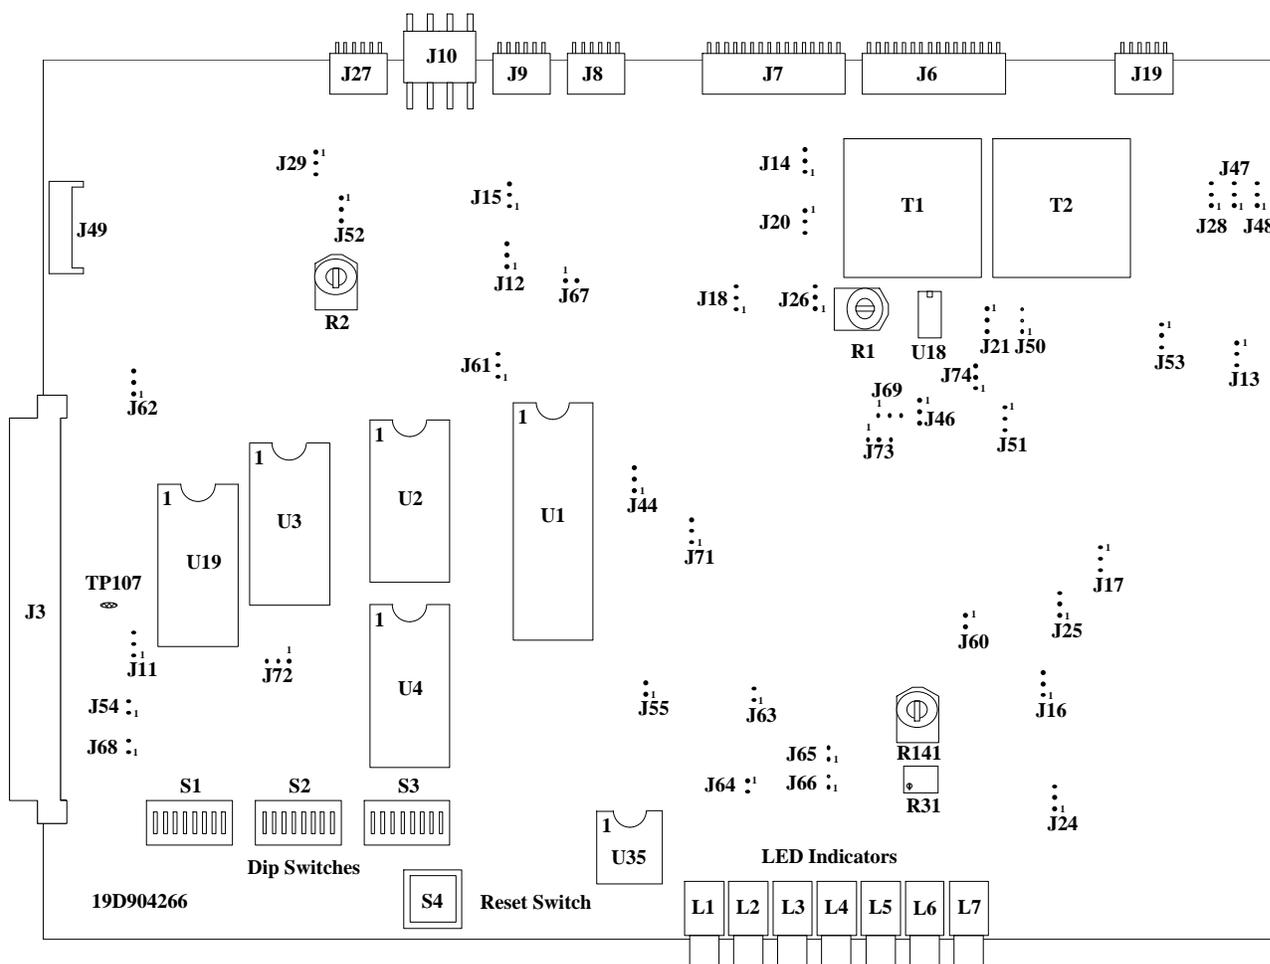

Figure 7 - Station GETC (19D904266) Jumper Locations
1. Refer to the Station GETC Configuration Manual LBI-38988 and, if possible, make a full size transparency of the station GETC Jumper Location Diagrams. If the LBI is unavailable, refer to Figure 7 and Table 7.
Three DIP switches on the GETC Logic Board must be set for proper repeater operation. These switches are located on the GETC Logic Board as shown in Figure 7. In the MASTR III repeater, S1-1 through S1-7 and S2-1 thru S2-4 are not used. S3-1 through S3-5 select the channel number. The remaining switch positions depend on the function of the overall system (i.e. with or without Site Controller or conventional Failsoft system).